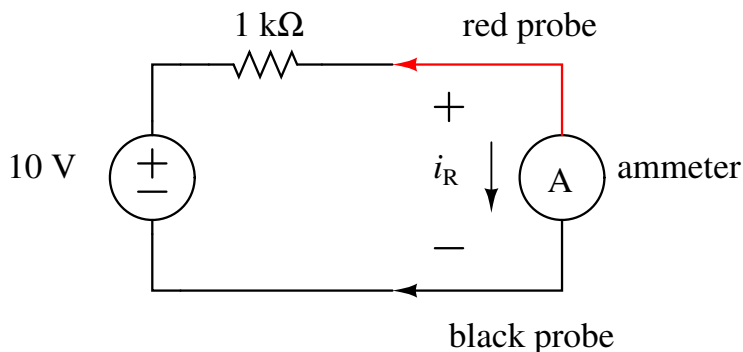

Figure 7. Circuit illustrating the measurement of current.
1. Make sure the middle (green) output of the power supply is off, then assemble the circuit in Figure 7 using one of the (nominally 1 k Ω) resistors as measured in Experiment 6.3 above.